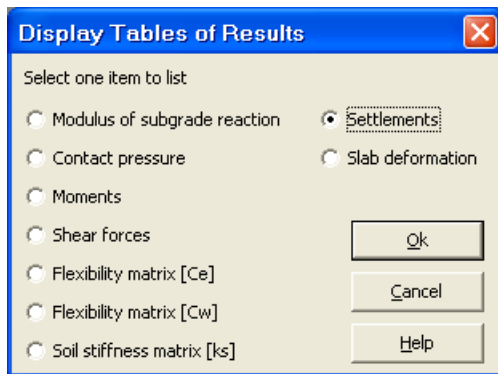

Figure 10-46 "Display tables of results" option box
- Choose "Display tables of results" command from "List" menu. The following option box in Figure 10-46 appears